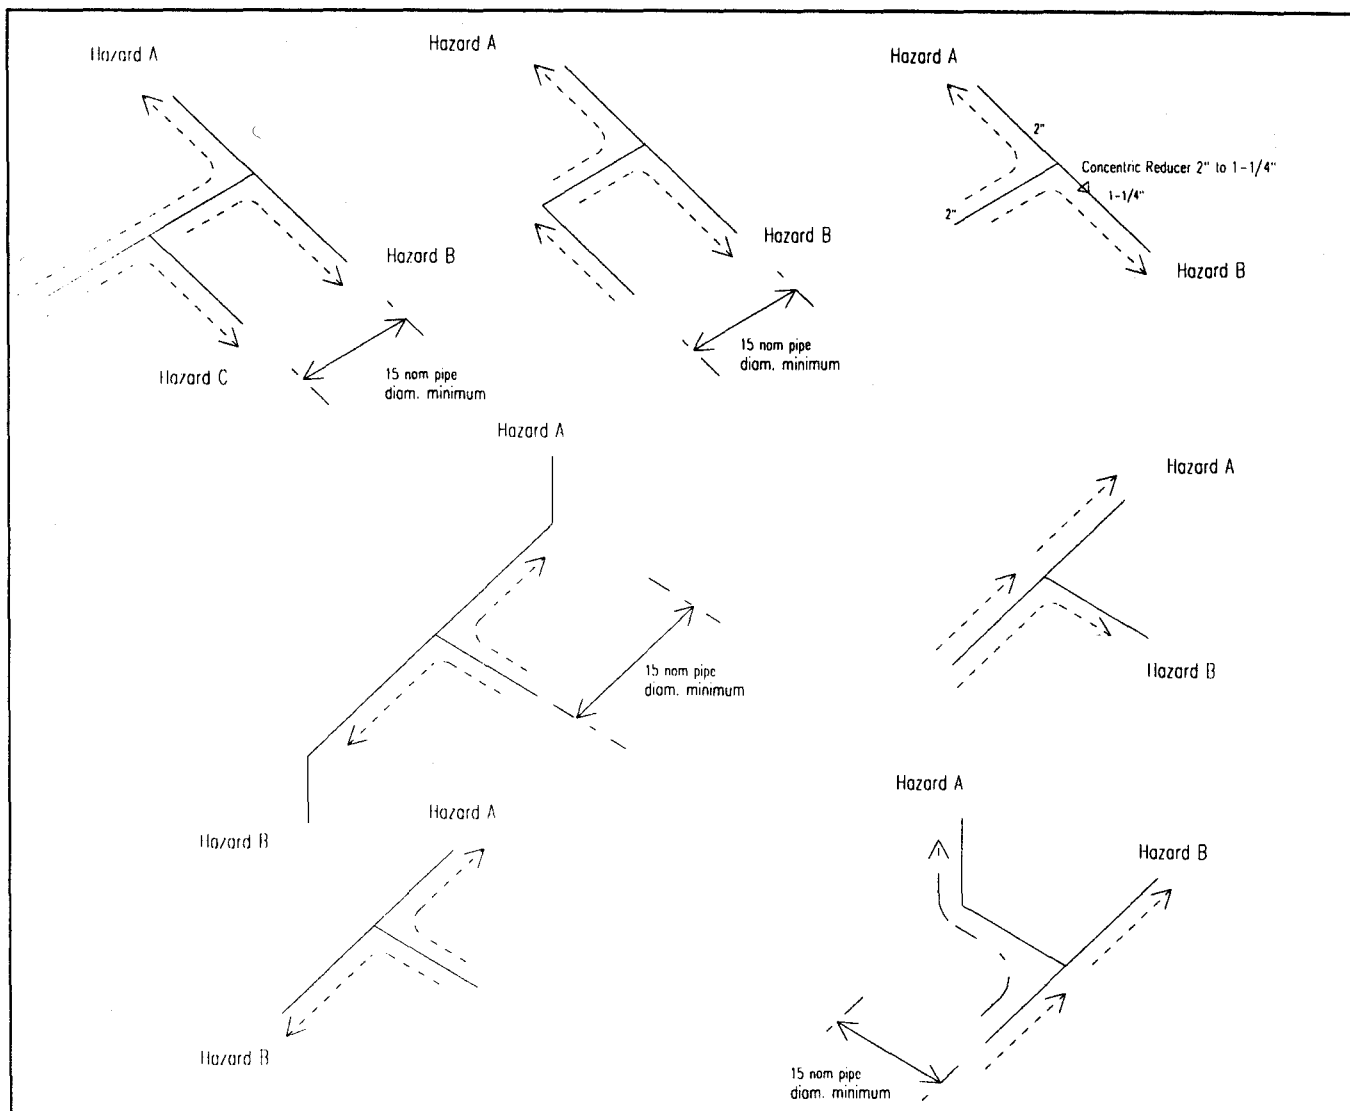

Figure 3.3.2 - Acceptable Tee Flow Splits for FM-200
3.3.2 Tee Flow Splits. Flow splits at tee junctions are sensitive to gravity. Even though turbulent flow exists, there is a tendency for the vapor phase to migrate to the upper portion of the pipe leaving a more dense medium at the bottom of the pipe. For this reason, the following limitations must be observed (also See Figure 3.3.2):